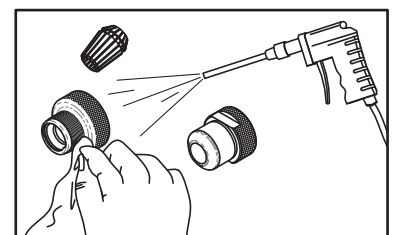
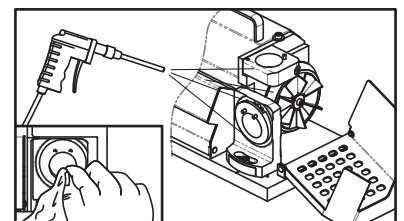

Fig. 16-4
Fig. 16-5
① Unplug the power cord and make sure the power is off.
② Disassemble the chuck set after use.
③ Use the air press gun to clean the scraps and dust out of all grinding shelves and all the accessories. (Fig. 16-4, Fig. 16-5)
(Fig. 16-4, Fig. 16-5)